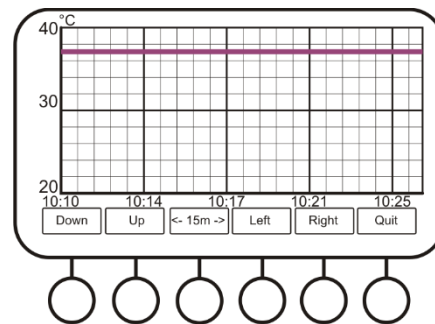

Fig. 12. Temperature plot
- 4.9.5.1 All **View Plot** options use following interface. Figure 12 shows the temperature plot in relation to time.